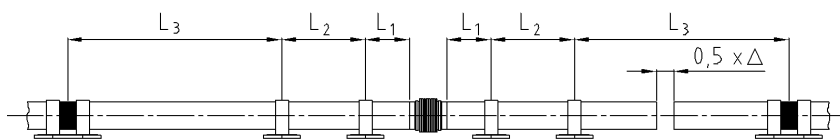

Fig. 1
- Align the pipeline, distance between pipe guides according to fig. 1, table 3 and diagram 2